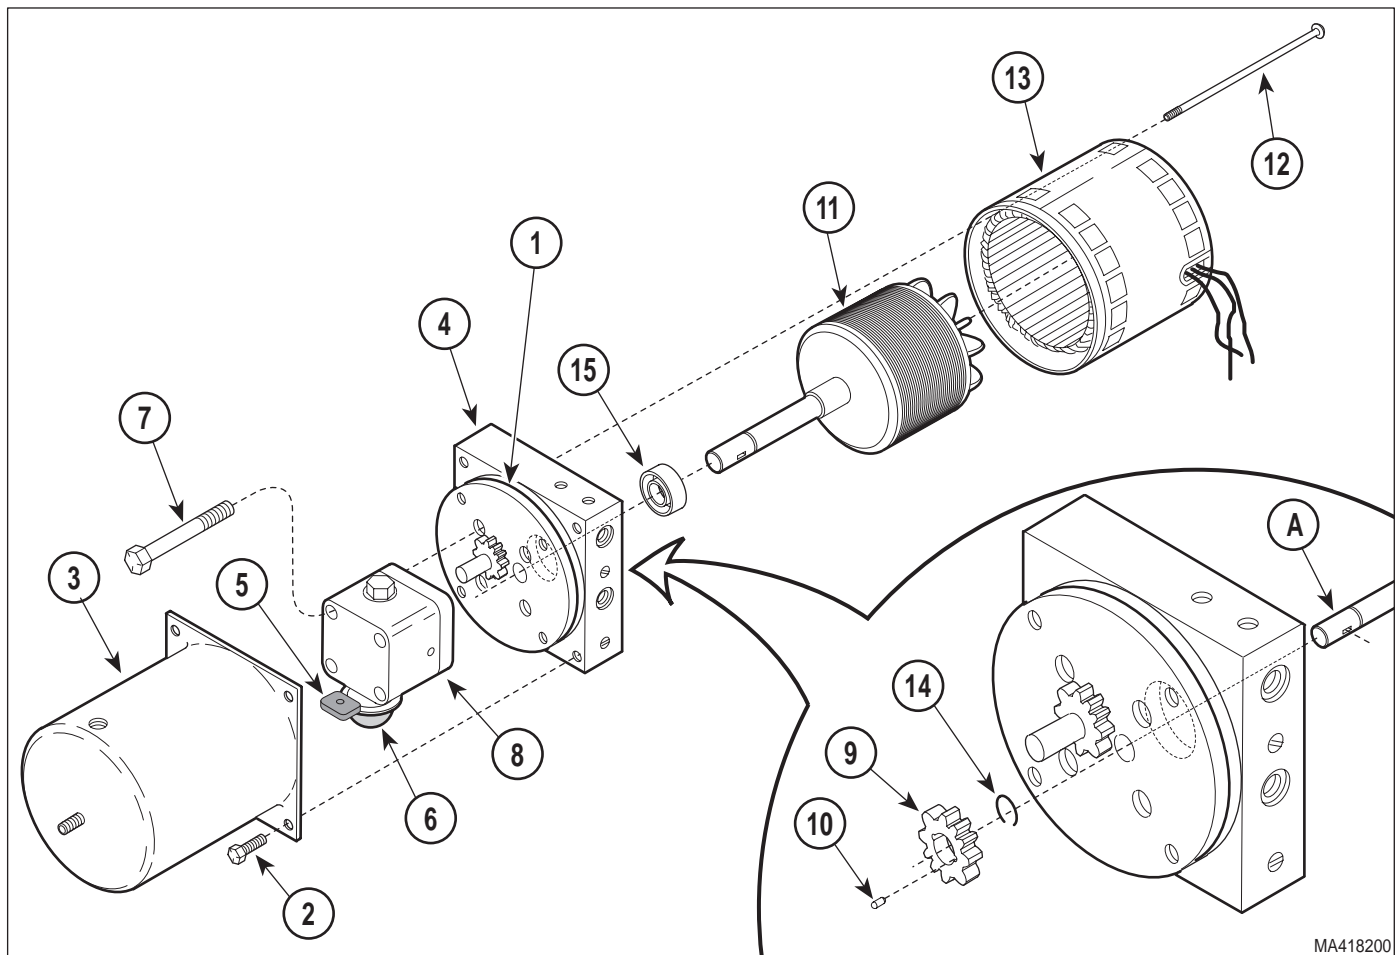

Figure 4-11. Motor Shaft Seal Removal / Installation
Reservoir will come off hard. Use a screwdriver to pry reservoir off manifold block, but make sure not to damage the reservoir seal o-ring (1, Figure 4-11).
- (3) Remove the four screws (2, Figure 4-11) and the reservoir (3) from the manifold block (4).
- (4) Remove the magnet (5) from the strainer (6).
- (5) Remove the four screws (7) and the pump housing (8) from the manifold block (4).
- (6) Remove the pump gear (9) and woodruff key (10) from the shaft (A) of the rotor assembly (11).
- (7) Remove the four screws (12) and the motor housing (13) from the manifold block (4).
- (8) Push the rotor assembly (11) inward toward the manifold block (4); then remove the retaining ring (14) from end of rotor assembly shaft (A).
- (9) Remove the rotor assembly (11) from the manifold block (4).
- (10) Using a screwdriver, pry the motor shaft seal (15) out the of manifold block (4).
- (1) Clean all metal shavings off of all components.
- (2) Coat the motor shaft seal (15, Figure 4-11) with vaseline or mineral oil.